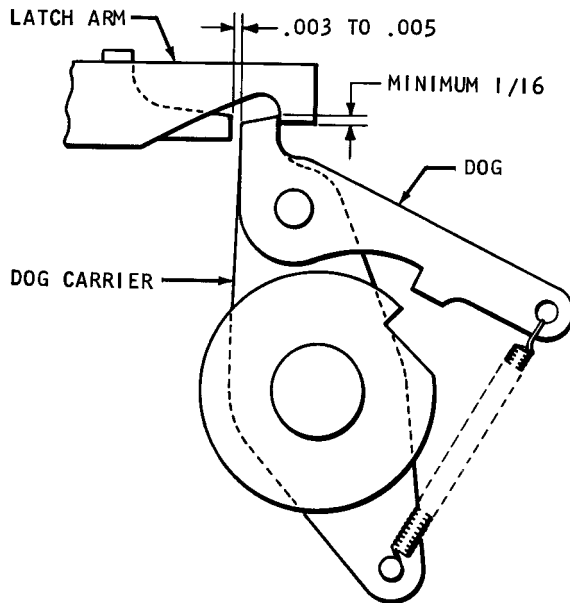

Figure 30. Keeper to Dog Clearance
3. Turn the machine to the high dwell on the clutch cam. Check for a minimum of  $\frac{1}{16}$ " overlap of clutch latch arm on the dog and dog carrier (Figure 30).
4. Check for .003" to .005" clearance between the dog carrier and the keeper. Peen or stone the keeper to adjust (Figure 30).